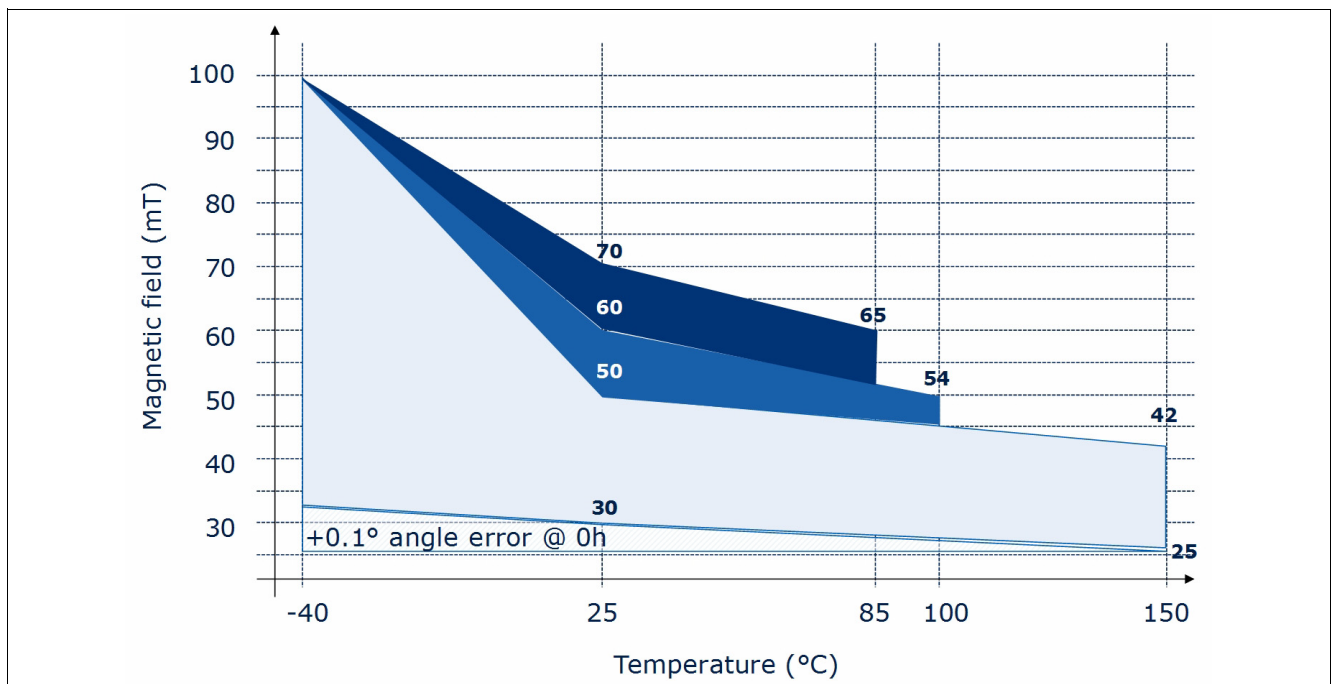

Figure 14 Allowed magnetic field range as function of junction temperature.
- 3) See Figure 14.
The field strength of a magnet can be selected within the colored area of Figure 14. By limitation of the junction temperature, a higher magnetic field can be applied. In case of a maximum temperature  $T_j = 100^\circ\text{C}$ , a magnet with up to 60 mT at  $T_j = 25^\circ\text{C}$  is allowed.